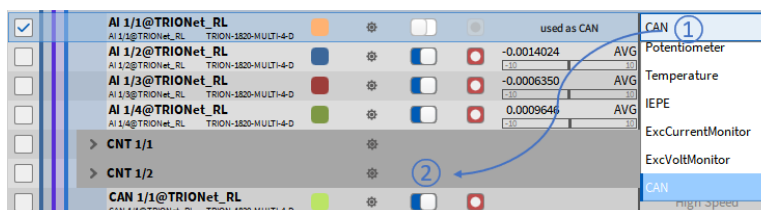

Fig. 7.197: Using the CAN port of a TRION-MULTI board
**Note:** When using the CAN port of a TRION(3)-18x0-MULTI or a TRION-2402—MULTI board, the CAN port is available on AI 1 of these boards. For accessing and using these CAN ports, you have to set the Input mode of AI 1 to CAN first and activate the dedicated CAN port second (see Fig. 7.197)